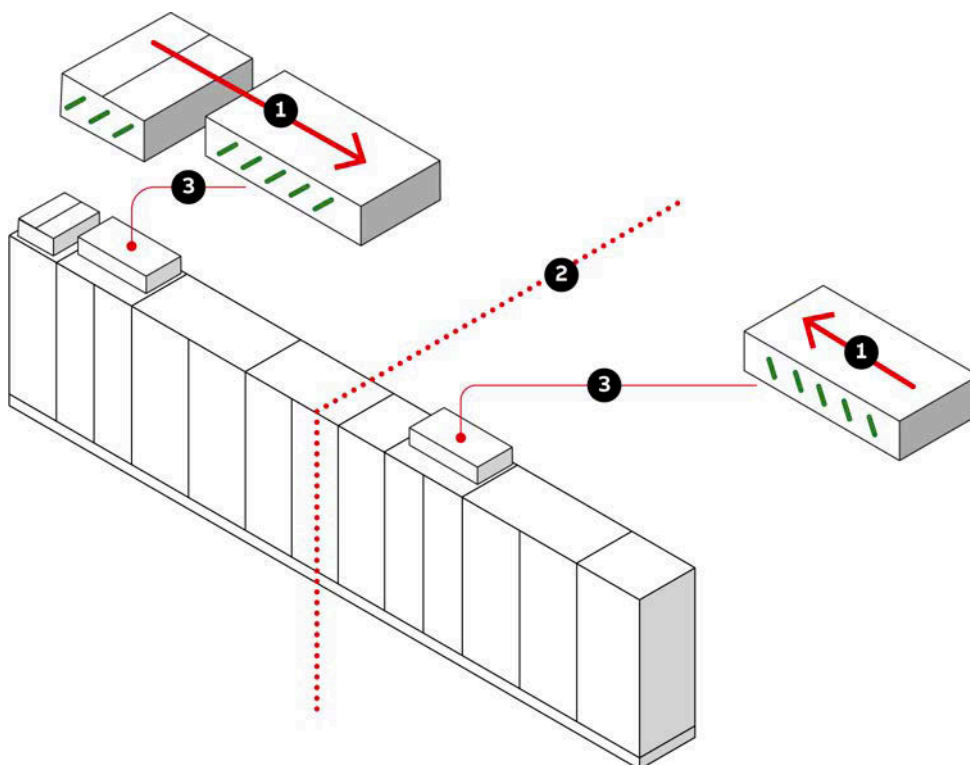

Figure 5–21 Installation example of pressure relief vents
2. Fasten the pressure relief vent to the roof with the supplied screws (Fig. 5–21).